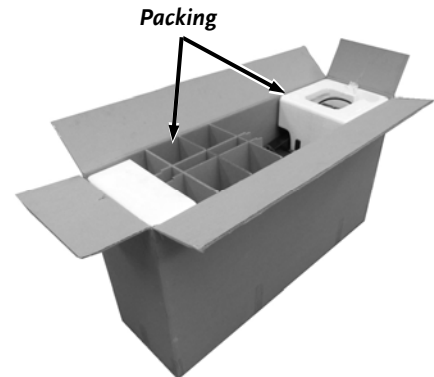

Figure 1
2. Remove the Product Package, the loose Styrofoam and cardboard packing from inside the box (**Figure 1**).